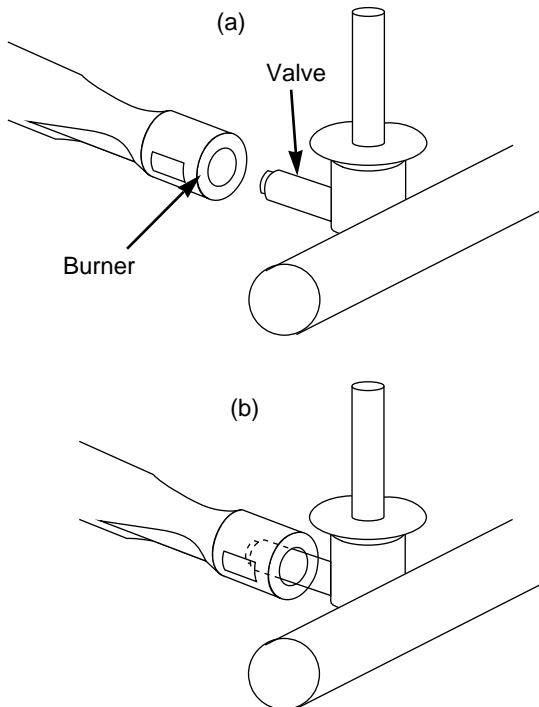

**Figure 13**
- h) Lift and twist the burner assembly slightly, to separate the crossover tube from the burners. Figure 13. Remove the burners from the cooking box.